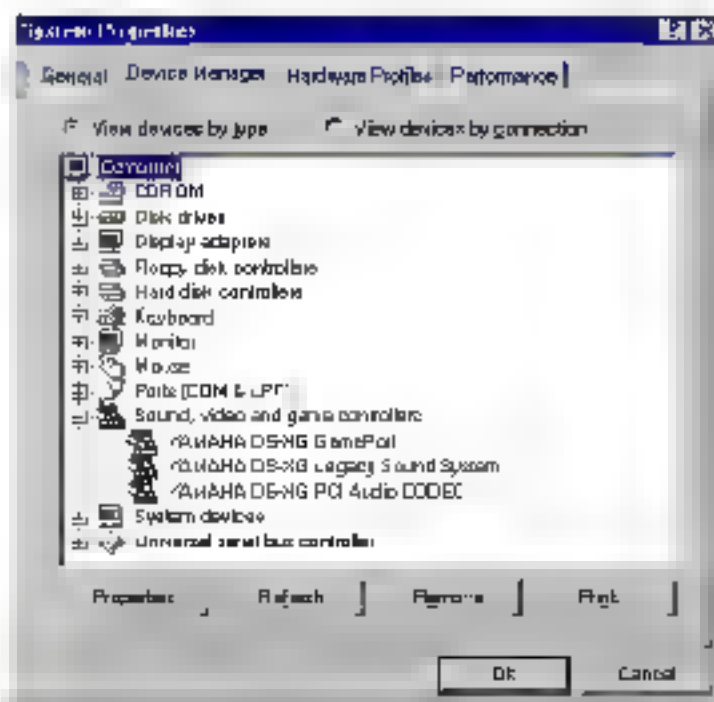

Figure 2-2 The system properties for Device Manager
- 4) The System Properties window now appears. Click on the Device Manager tab as shown in Figure 2-2 below